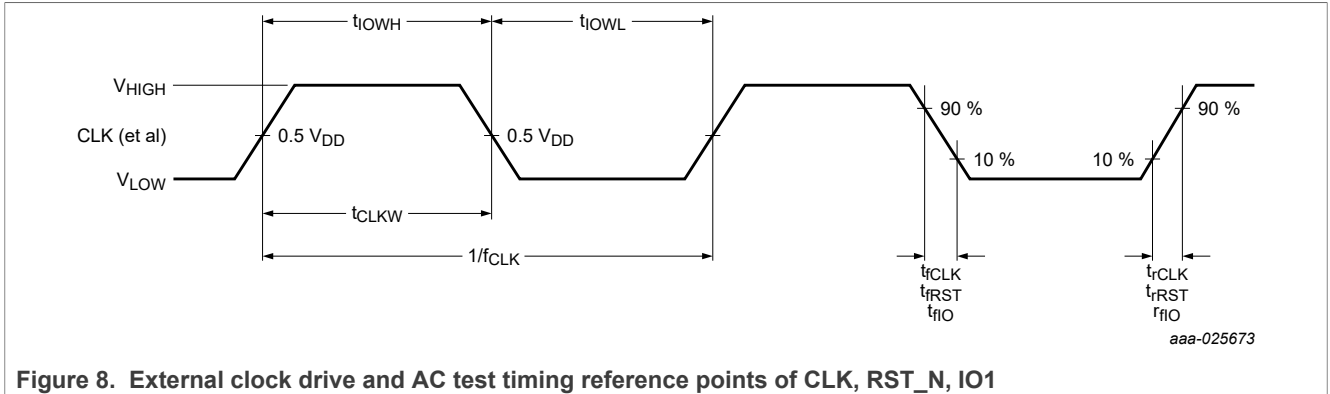

Figure 8. External clock drive and AC test timing reference points of CLK, RST_N, IO1
- [5] During AC testing the inputs CLK, RST_N, and IO1 are driven at 0 V to 0.3 V for a LOW input level and at $V_{DD} - 0.3\text{ V to }V_{DD}$ for a HIGH input level. Clock period and signal pulse (duty cycle) timing is measured at 50 % of V_{DD} (see Figure 8).